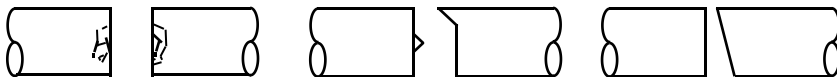

Fig. 7-4 Defected fiber end-faces
- b) Judge if end-faces are applicable. Dirty end-faces and end-faces with defects, burrs and too large angles are not suitable for splicing, as shown in Fig. 7-4.